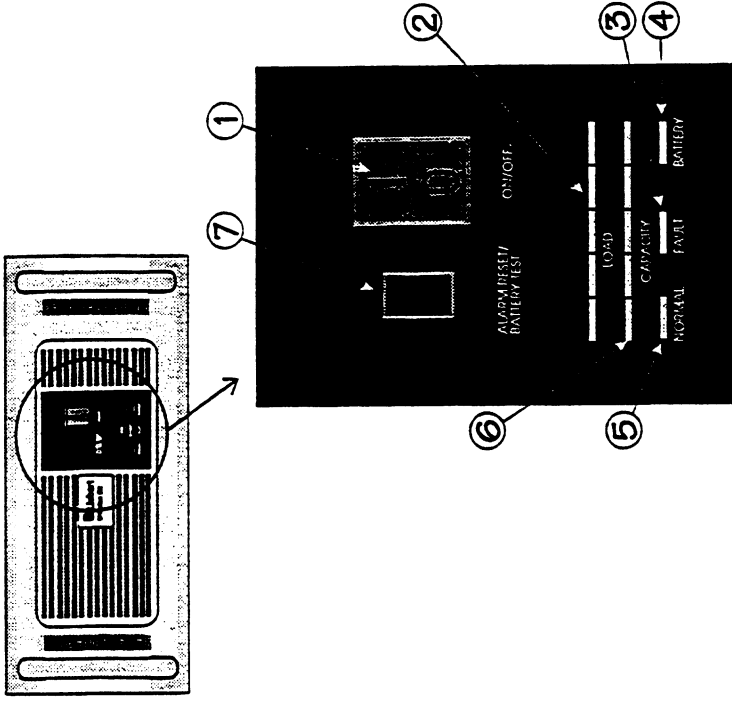

Figure 7. Front panel view
- ⇒ Select the power control switch (1) shown in figure 7, to the ON position "1". The "normal" indicator (5) on the front of the UPS should show green and will remain green throughout normal operating conditions.